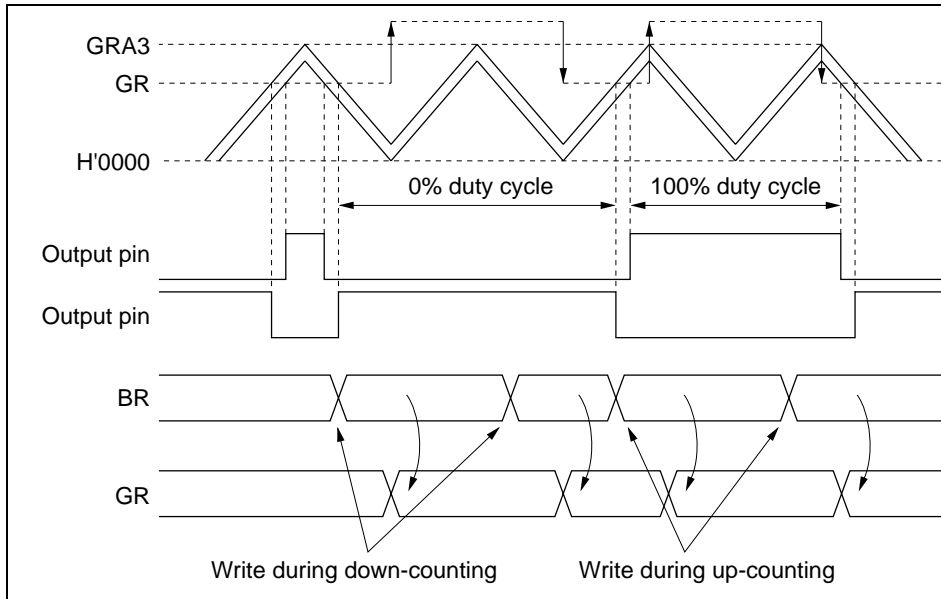

Figure 10.42 Changing a General Register Setting by Buffer Transfer (Example)
- Waveforms with a duty cycle of 0% or 100% can be output by setting a general register to a value outside the counting range. When a buffer register is set to a value outside the counting range, then later restored to a value within the counting range, the counting direction (up or down) must be the same both times. See figure 10.42.